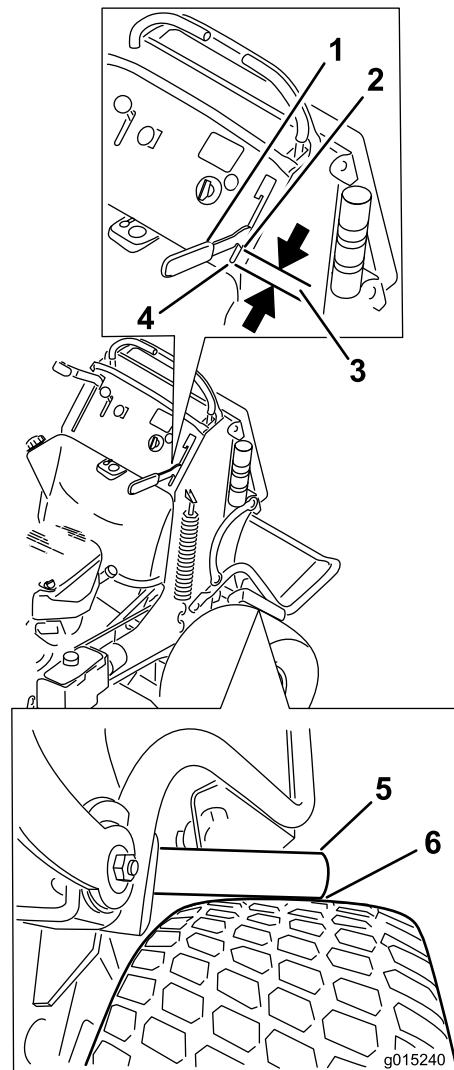

Figure 65
4. Engage the brake lever until the brake bars first contact the tire (Figure 65).
5. Measure the gap from the front of the hand lever to the end of the slot in the control panel when the brake bar contacts the tire. This measurement needs to be 3/4 inch (19 mm). Adjust the brake if needed (Figure 65).